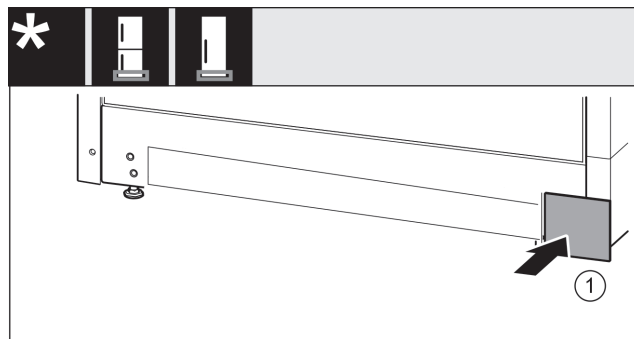

Fig. 35
- ▶ Re-attach the cover Fig. 35 (1) on the other side.